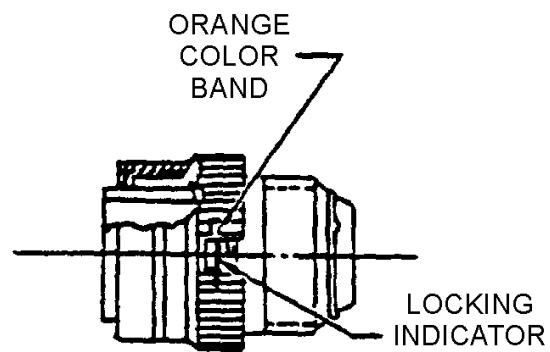

Figure 38. Self-Locking Connector
h. A self-locking connector is typically coupled until the moveable indicator is aligned with index marks on coupling ring. (Figure 38). In fully mated condition the locking indicator shall be aligned within orange color bands. The mating window is optional. The manufacturer shall provide details of the operation and function of the self-locking feature.